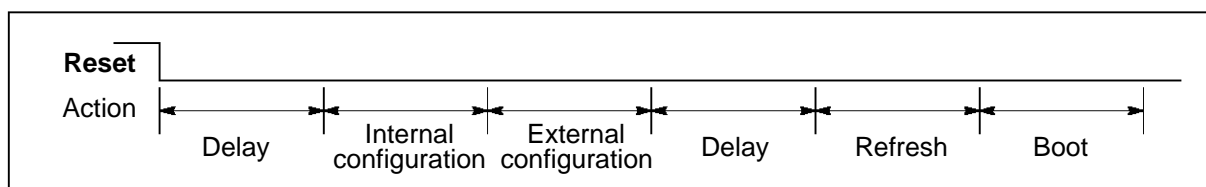

Figure 4.3 IMS T805 post-reset sequence
**Reset** can go high with **VDD**, but must at no time exceed the maximum specified voltage for **VIH**. After **VDD** is valid **ClockIn** should be running for a minimum period **TDCVRL** before the end of **Reset**. The falling edge of **Reset** initialises the transputer, triggers the memory configuration sequence and starts the bootstrap routine. Link outputs are forced low during reset; link inputs and **EventReq** should be held low. Memory request (DMA) must not occur whilst **Reset** is high but can occur before bootstrap (page 32). After the end of **Reset** there will be a delay of 144 periods of **ClockIn** (figure 4.3). Following this, the **MemWrD0**, **MemRfD1** and **MemAD2-31** pins will be scanned to check for the existence of a pre-programmed memory interface configuration (page 35). This lasts for a further 144 periods of **ClockIn**. Regardless of whether a configuration was found, 36 configuration read cycles will then be performed on external memory using the default memory configuration (page 37), in an attempt to access the external configuration ROM. A delay will then occur, its period depending on the actual configuration. Finally eight complete and consecutive refresh cycles will initialise any dynamic RAM, using the new memory configuration. If the memory configuration does not enable refresh of dynamic RAM the refresh cycles will be replaced by an equivalent delay with no external memory activity.